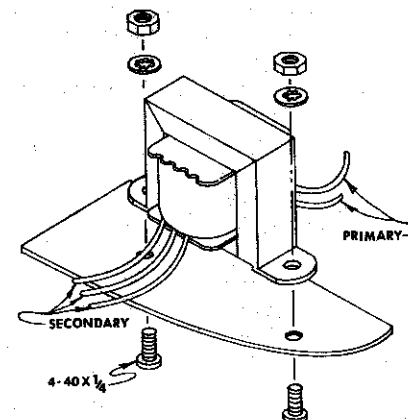

Figure 6 - Transformer Mounting
- () Using two (2) 4-40 X 1/4-inch machine screws, two (2) #4 internal lock washers, and two (2) 4-40 machine screw nuts mount the transformer to the case bottom as shown in figure 6.